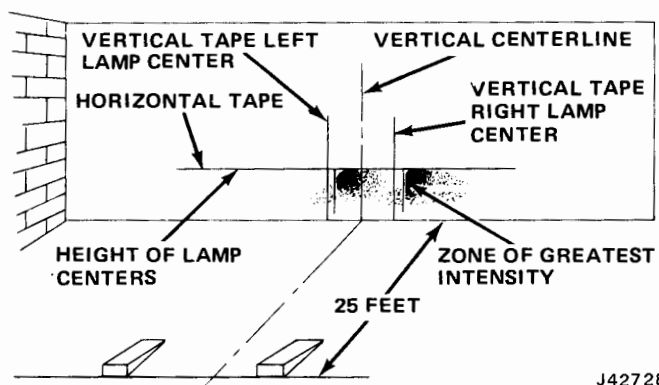

Fig. 3-73 Headlamp Aiming Chart
(15) Turn screw clockwise until top edge of high intensity area is even with horizontal line.
(16) Turn horizontal aiming screw counterclockwise until beam is off centering tape.
(17) Turn same screw clockwise until left edge of high intensity area is 2 inches to right of lamp center-line (fig. 3-73).
(18) Cover lamp that has been aimed and aim other lamp using same procedure.